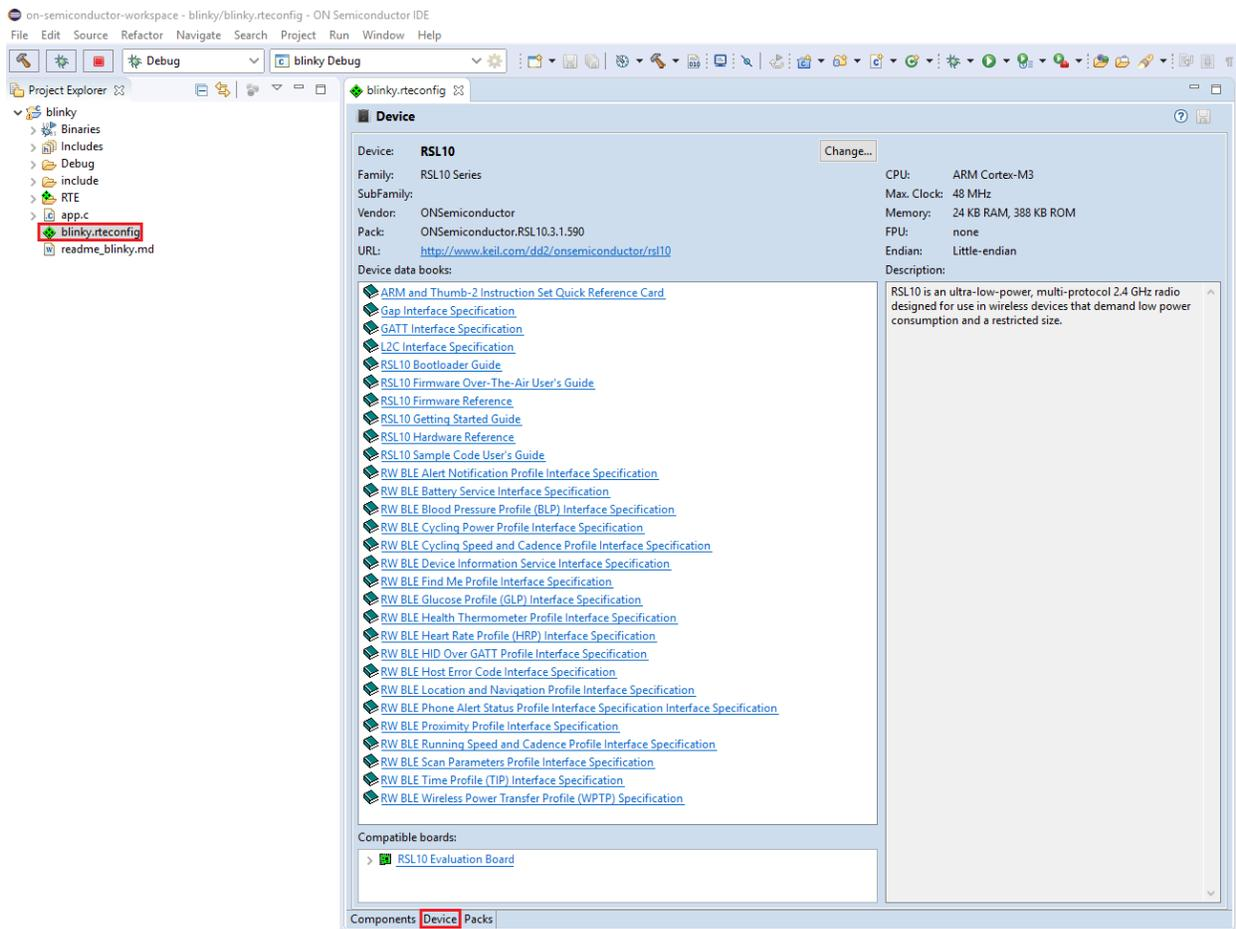

Figure 54. Accessing RSL10 Documentation from the onsemi IDE
- onsemi IDE: documentation is accessible through the C/C++ perspective by opening any RTE configuration file, such as `blinky.rteconfig`, and selecting the tab **Device** (see Figure 54, below).